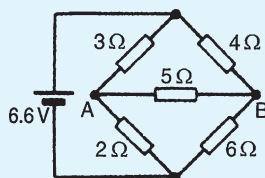

Figure 13.52
- For the bridge network shown in Fig. 13.52, find the current in the  $5\ \Omega$  resistor, and its direction, by using Thévenin's theorem.